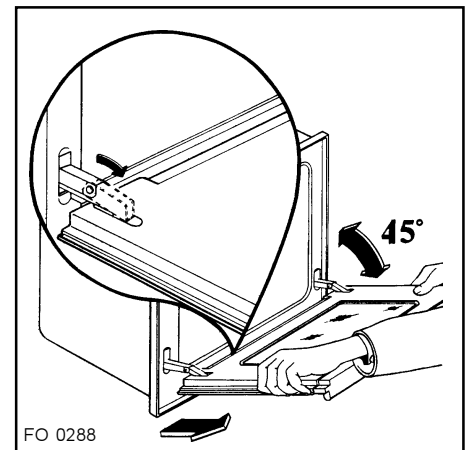

Fig. 9
- b) find the hinges linking the door to the oven (fig. 9);
- c) unlock and turn the small levers located on the two hinges (fig. 9);
- e) gently pull the oven door off its site (fig. 9);